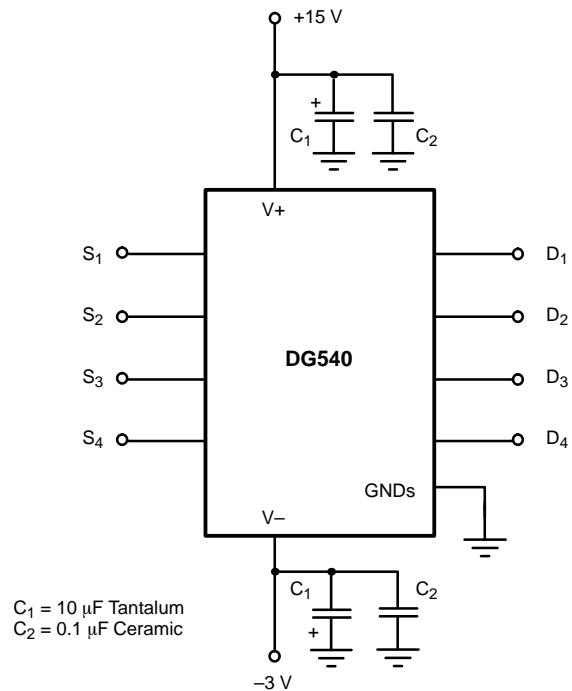

FIGURE 7. Supply Decoupling
1. Decoupling capacitors should be incorporated on all power supply pins (V+, V-). (See Figure 7.)